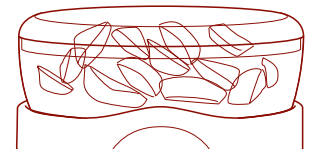

Figure 3
4. Fill the Ice Reservoir with ice cubes. *Figure 3*